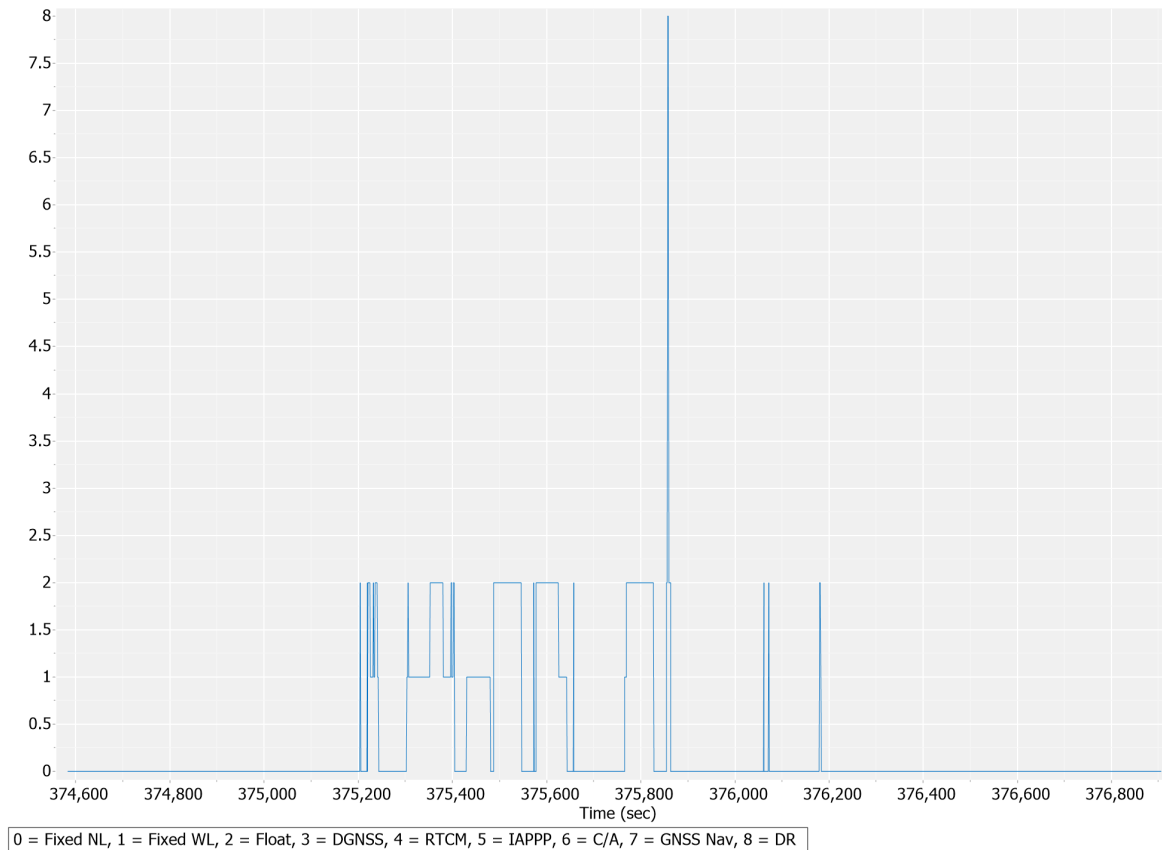

Fig 11: Processing Mode
- *Provides information about the GNSS ambiguity solution success (Fig 11)*